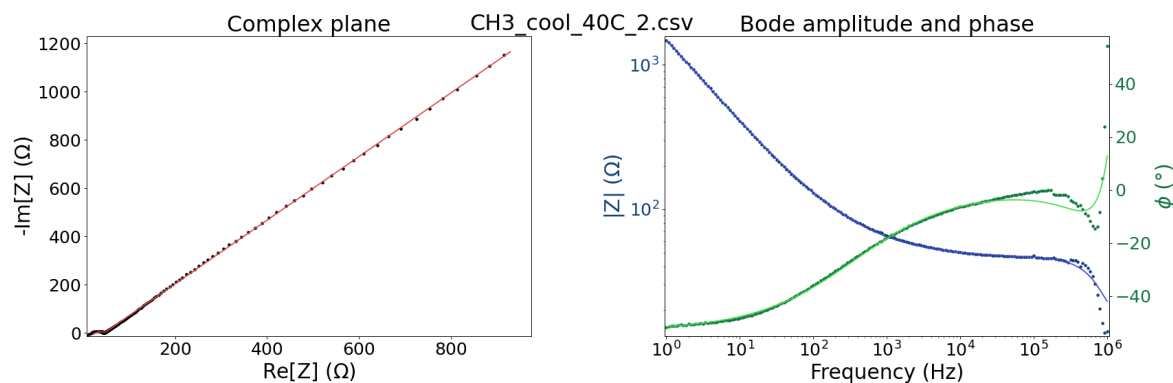

Figure 18: Initial guess for $\text{RbOH} \cdot x\text{H}_2\text{O}$.
7. Since this is quite a simple circuit, using **Calculate>Automatic initial guess**, a reasonable initial guess can be obtained. Note that this method is subject to some randomness; the result may change (for better or worse) by pressing **Automatic initial guess** multiple times. After doing this twice, the result could look like the one in Figure 18.